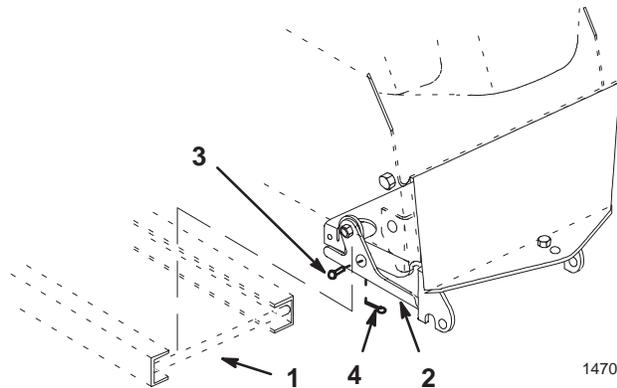

Figure 6
3. Open the latch levers on the rear attachment plate and lift the frame to position the frame mount into the open slots. Close the latch levers and secure with 1/4 x 3/4" (19 mm) clevis pins and small hairpin cotters (Fig. 6).